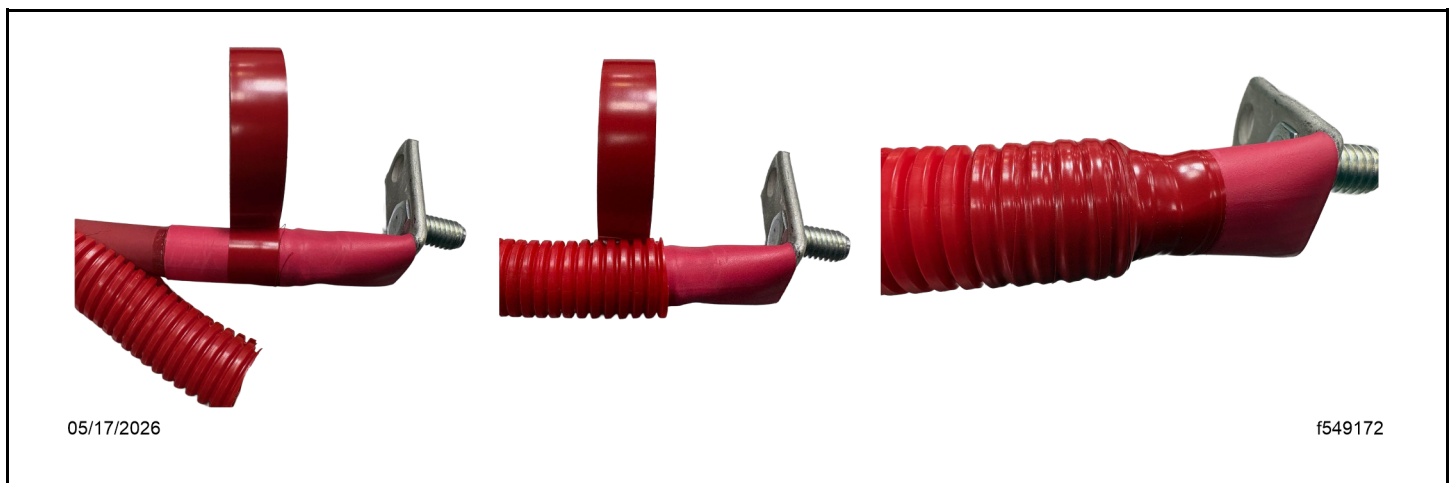

Fig 92, Installing the Convolute Cover
- d. Install the convolute cover by applying red electrical tape to cover the transition from the heat shrink to the convolute cover. See Fig. Fig. 92.